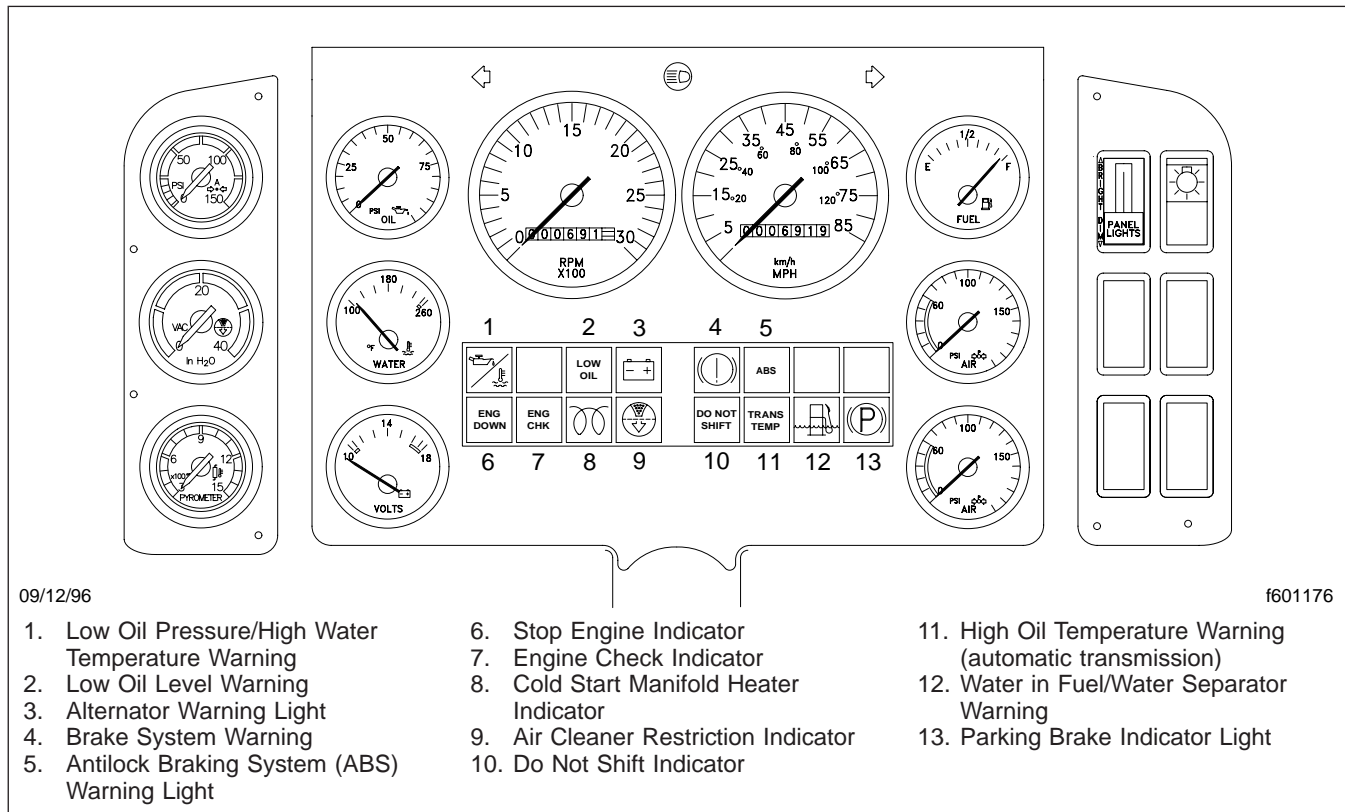

Fig. 2.9, Warning and Indicator Lights
- The red parking brake indicator light, that comes on when the parking brake is applied and the ignition switch is in the ON position. See Fig. 2.9.
Standard red warning lights are for alternator no-charge, and the brake system warning. See Fig. 2.9. Whenever conditions cause the brake system warning light to come on, a warning buzzer also alerts the driver.
The oil pressure warning light and buzzer activate whenever the oil pressure falls below the minimum oil pressure recommended by the engine manufacturer. See Fig. 2.9.
The water temperature warning light and buzzer activate whenever the engine coolant temperature exceeds a preset point determined by the engine manufacturer. See Fig. 2.9.